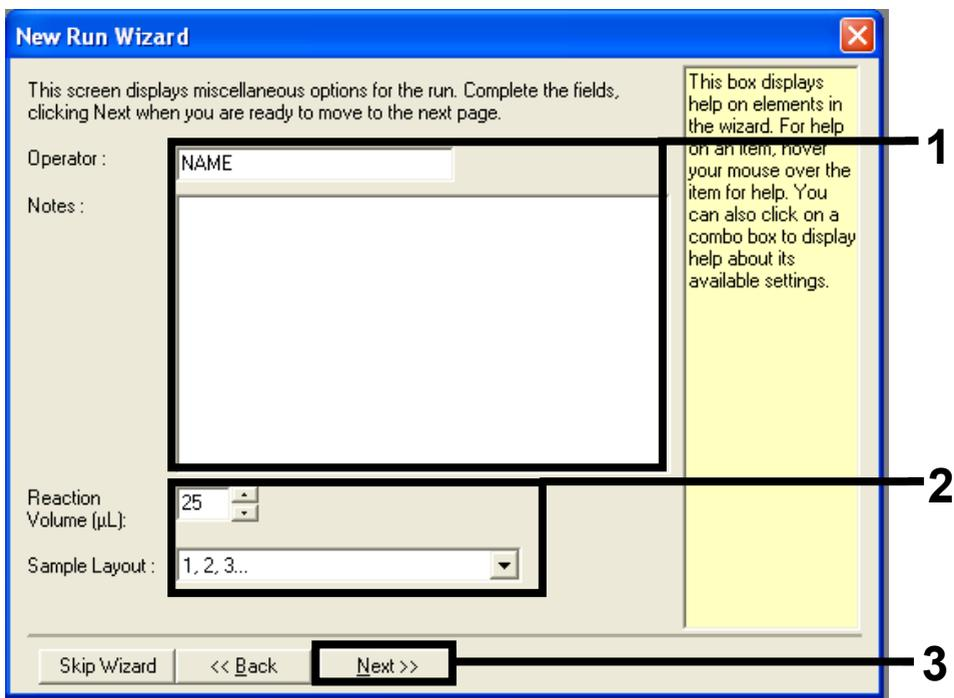

Figure 2. The “New Run Wizard” dialog box. 1 = “Operator” and “Notes” fields, 2 = “Reaction Volume” and “Sample Layout” fields, 3 = “Next.”
16. Enter the name of the operator. Add any notes and check that the reaction volume is set to 25 and the “Sample Layout” box reads “1, 2, 3...”. Click “Next” (Figure 2).